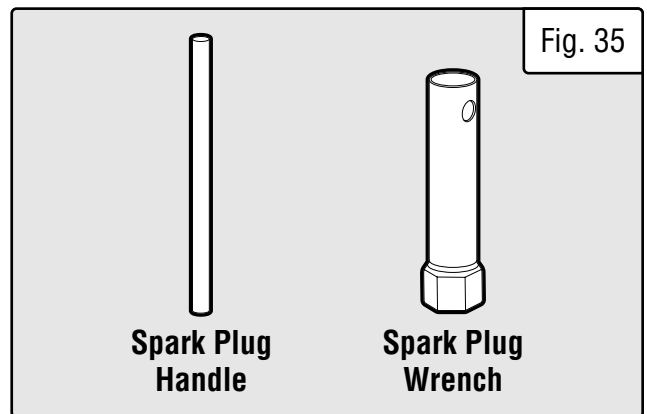

Fig. 35
3. Use the included spark plug wrench to unscrew and then carefully remove the spark plug from the engine (Fig. 35).